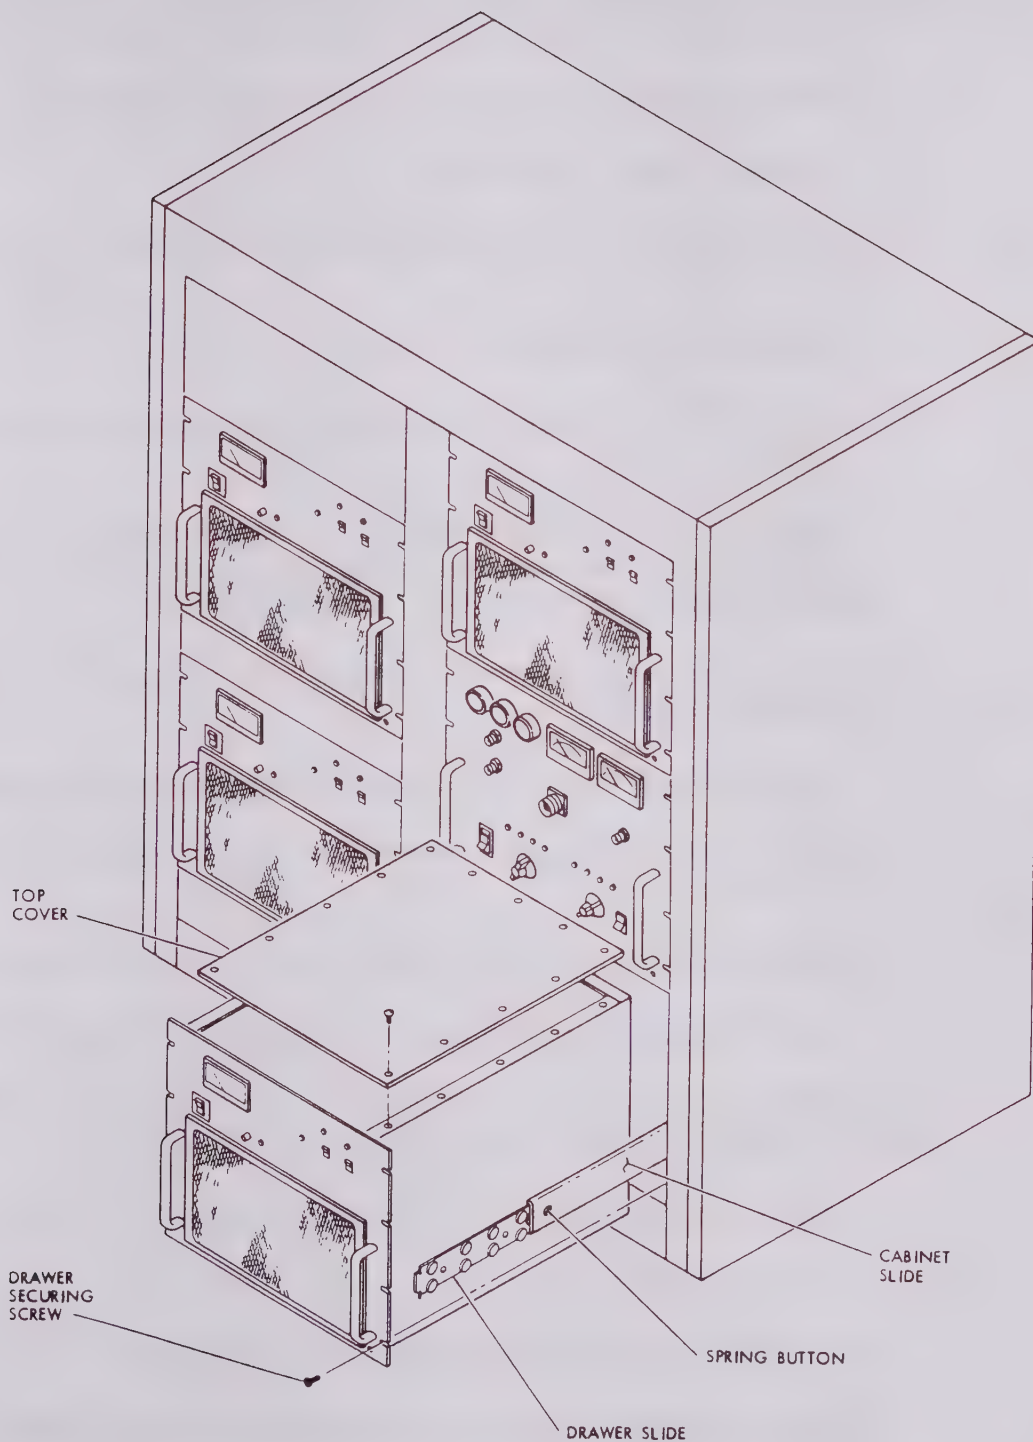

Figure 6-1. Drawer Removal From Rack
- a. **Drawer Removal.** If drawer removal is necessary, perform the following procedures (see Figure 6-1):
- m. Drawer Installation. Install drawers in cabinet in accordance with the following procedures (refer to Figure 6-1):